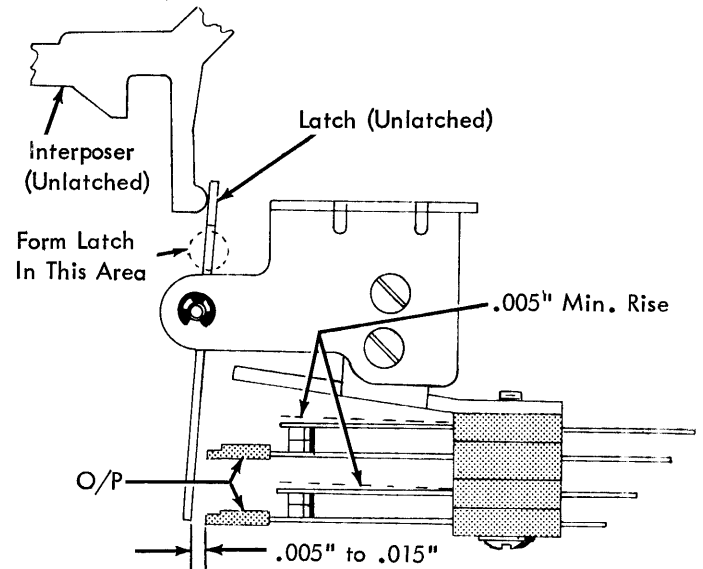

FIGURE 177. Assembly Position (With Latch Stop)
- 1a. Assembly (with latch stop) Position (Fig. 177) - With the operational interposer released, position the unit (front to rear) so that the latches clear the O/P stops by .005" to .015".